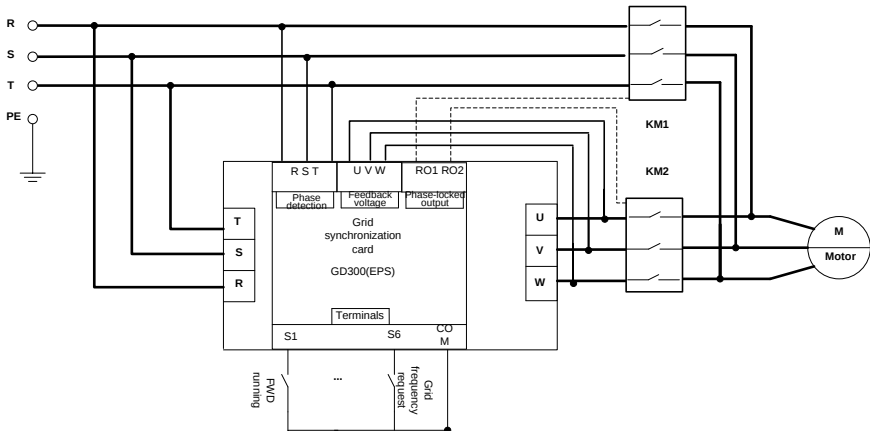

Figure 4.12 Disturbed switching diagram
- Step 1 If the field function terminals are inconsistent with those shown in Figure 4.12, set P22.00 the application mode and then manually adjust the actual wiring input and output terminal function. In accordance with the disturbed switching topology wiring requirements, check the line, ensure that the RST terminals on the terminal block correspond to the UVW terminals of the VFD (regardless of before or after switching).